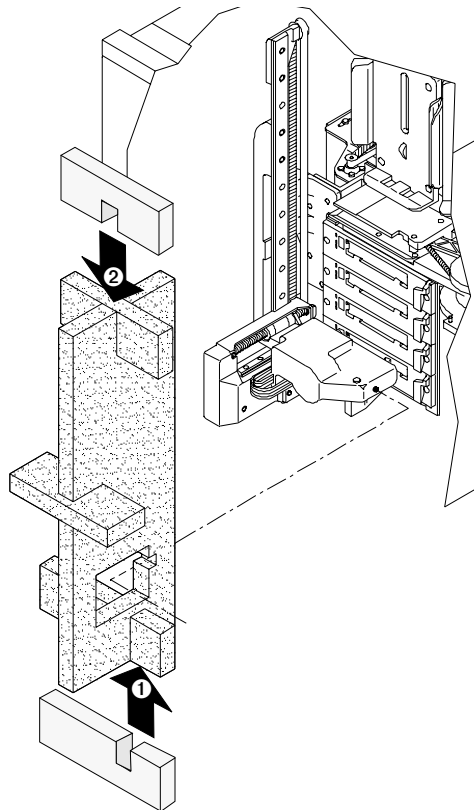

Figure 6-1 Installing the packing foam in the library
1. Put the vertical piece of the foam assembly into the library next to the CHM, as shown in Figure 6-1. Bend it as needed to get it through the door.
2. Maneuver the bottom cross piece (the one with the off-center notch) into position and fit its notch to the notch in the vertical piece (arrow 1 in Figure 6-1). Then bend the top of the vertical piece enough to attach the top cross piece (arrow 2 in Figure 6-1).